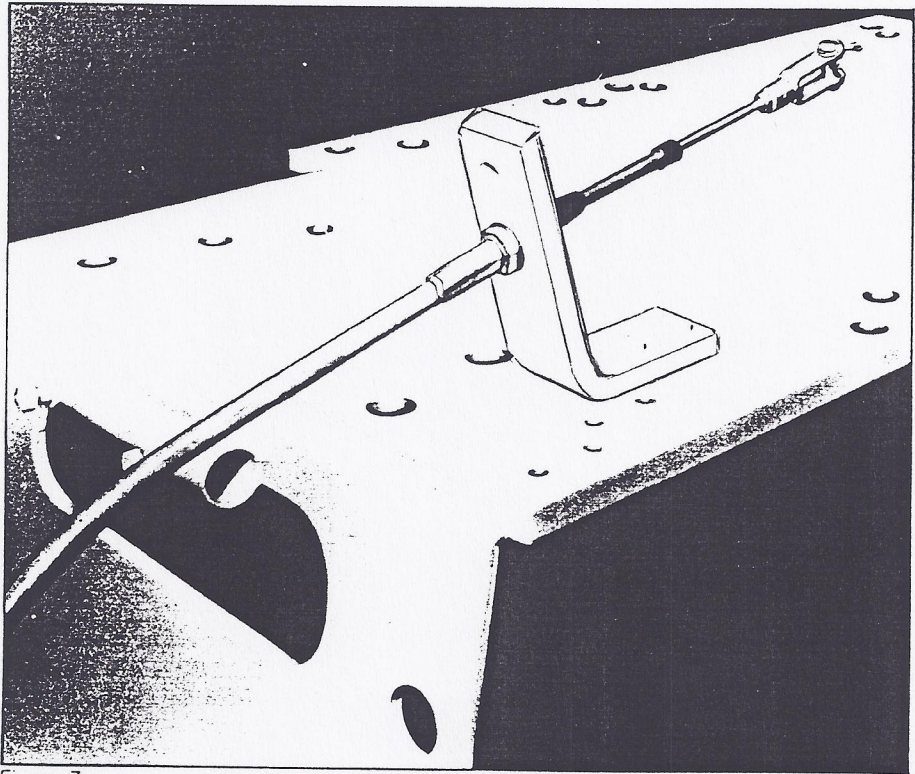

Figure 7
- a. Attach brake cable at top of subbase just below gear reducer and attach brake cable through angular bracket to be located at top of subbase and below gear reducer. Bracket to be bolted through holes as provided. Other end of cable to be attached through bracket welded to prime mover base. Be sure cable as attached at upper bracket is lined up with brake actuating arm. See illustration in Figure 7 and 8.